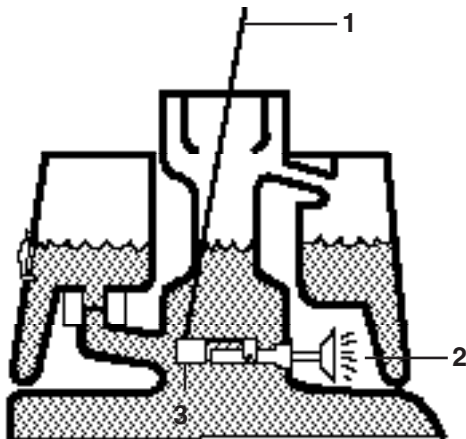

Figure 20
3. Insert a clean rod or screw driver into the tank neck and gently push down on the switch float (Fig. 20). The alarm should sound after a one-second delay.